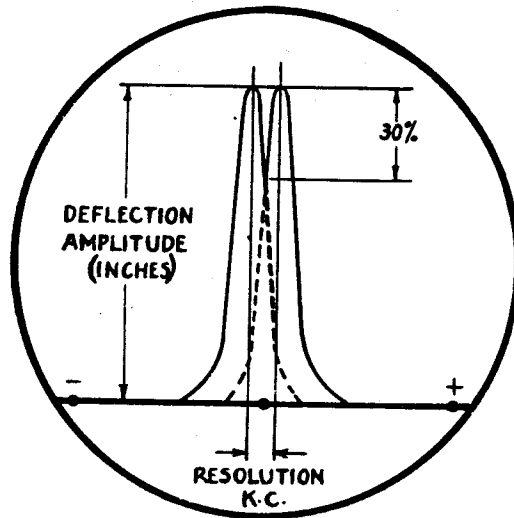

Fig. 6
- 3.08 Resolution (Fig. 6), is the visual equivalent of selectivity and is represented by the frequency difference between two signals of equal amplitude which intersect 30% down from their peak amplitude. It can be said that the resolution is "better" as this frequency difference decreases.